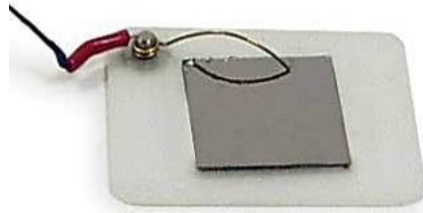

Fig. 11-2. Prepared substrate with a sample installed
3. Put the sample on the adhesive tape and carefully press it with tweezers in several places (Fig. 11-2). Do not touch the area intended for the investigation.
4. Turn the contact spring with the tweezers to apply the tunneling voltage to the sample and fix it somewhere close to the boundary of the sample. The central part of the sample should be freely accessible (Fig. 11-2).